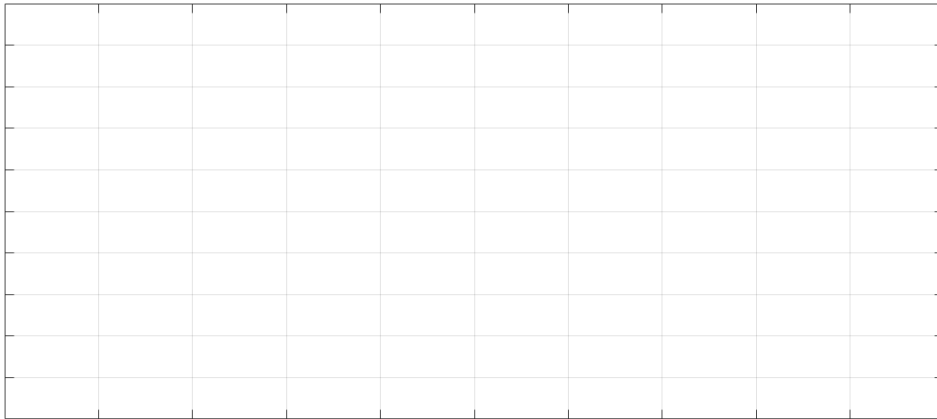

Figure 5: Phasor diagram of an RL Circuit
6. Draw the Phasor diagram of the RL circuit in Fig. 5.
The *Resonance Frequency* is defined as the frequency at which the impedance of the circuit is purely real, that is, with zero reactance. For the reactance to be zero, impedance of the inductor must equal that of the capacitor. At resonance, the impedance of a branch with LC in series is equal to zero, which is equivalent to a short, and the admittance of a branch with LC in parallel is equal to zero, which is equivalent to an open. As the frequency increases, the magnitude of an inductive reactance increases, while the magnitude of a capacitive reactance decreases. A circuit is said to be inductive if the total reactance is positive, and a circuit is said to be capacitive if the total reactance is negative. Fig. 5 shows a series RLC circuit. Using KVL: